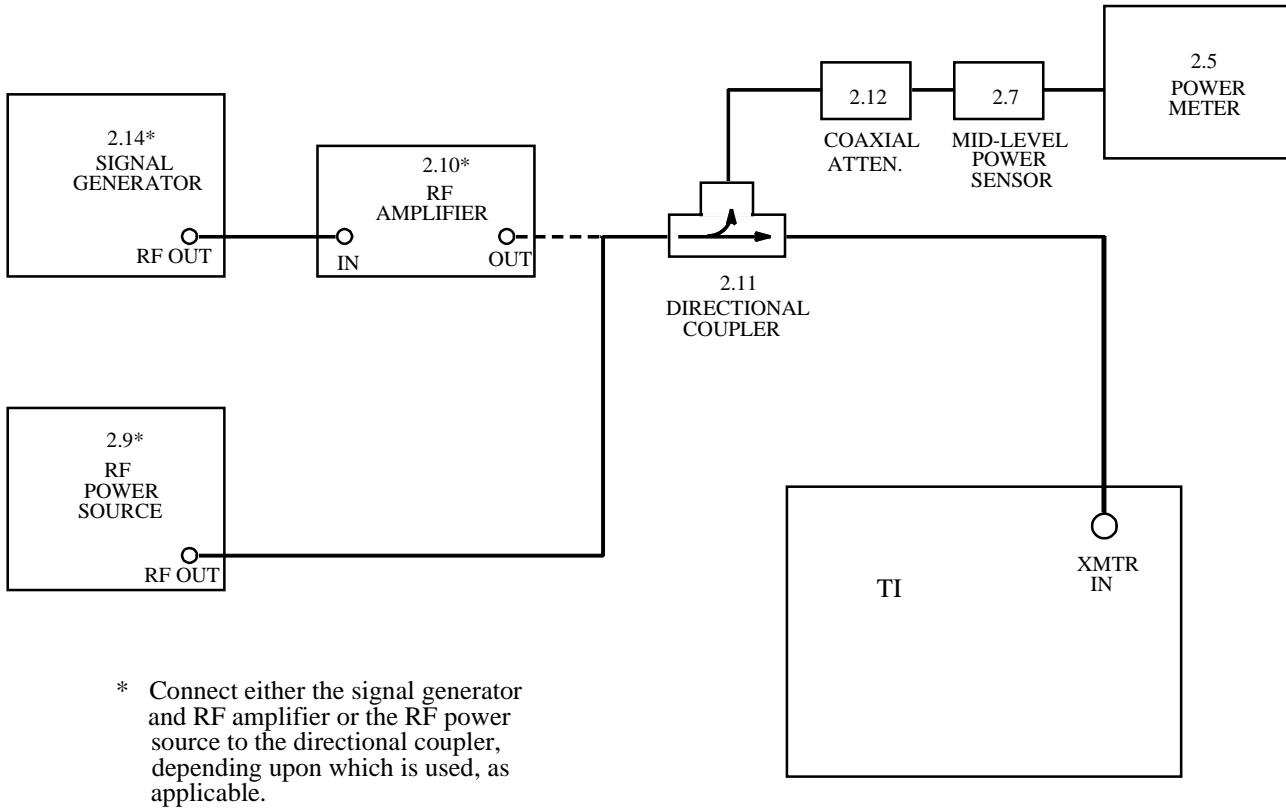

Figure 3. Power Meter Test Configuration.
4.9.3 Connect the equipment as shown in Figure 3. Ensure that the RF power source or signal generator output level is set to minimum.